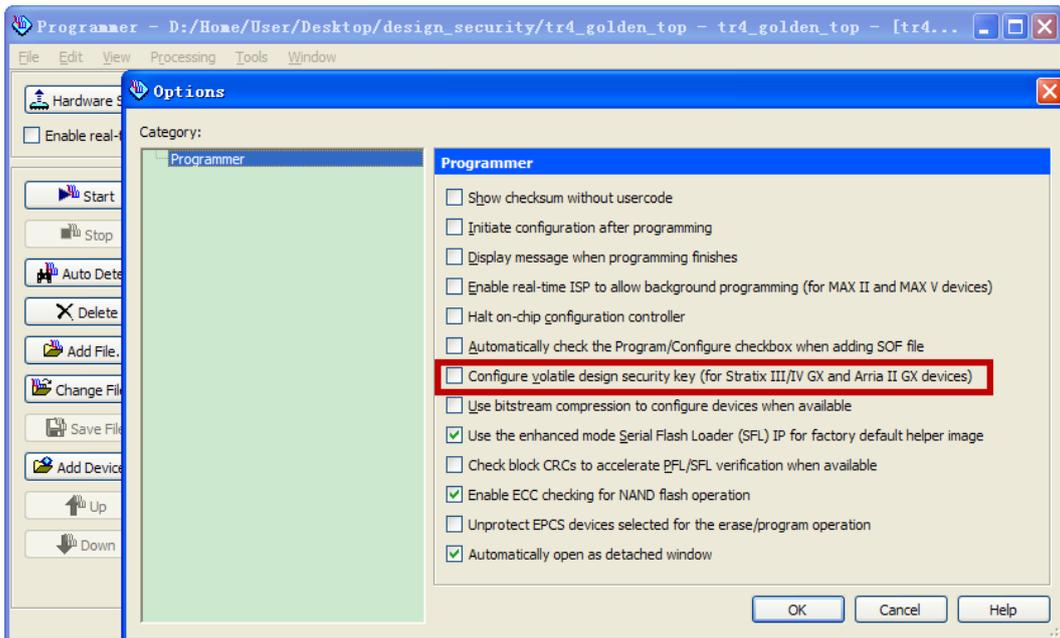

Figure 3-22 Option window
15. Click **Tools** and select **Option**, the **Option** window appears ,as is show in Figure 3-22.
17. Click **Start**. The progress successful in moment. As is shown in Figure 3-22
Figure 3-22 successfully progress